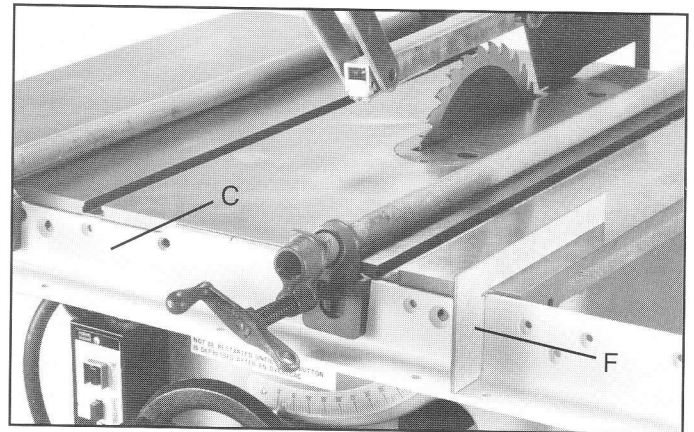

Fig. 16
2. Using template (F) Fig. 16, check and adjust the front rail at both sides of saw table, to make sure the horizontal portion of front rail (C) is parallel with the table top and then tighten bar clamps. The rail should be down from the top of the table 2-27/32".